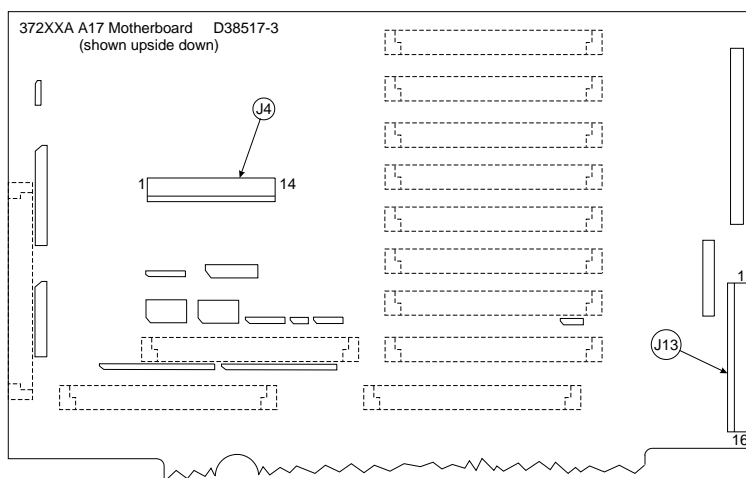

Figure 5-1. Location of Connectors for Power Supply Voltage Checks
- Step 4. Using a DMM or an oscilloscope, measure the DC power supply voltages listed in Table 5-1. Connect the DMM/oscilloscope to the top of the cable connectors at J13 and J4 on the Motherboard (A17). Refer to Figure 5-1 and Table 5-1.
- Step 4. Using a DMM and/or an oscilloscope, measure the power supply voltages at the power supply connector pins that correspond to the Motherboard pins for the + 9, ±18, and ±27 Vdc supplies. Refer to Table 5-1 and Figure 5-1 (previous page).
- Step 8. Using a DMM and/or an oscilloscope, measure the +5 volt power supply at connector J13 on the Motherboard. Refer to Figure 5-1 and Table 5-1, (page 505).